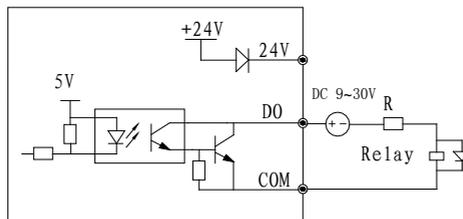

Fig. 2-22 On-off output connection mode 2 of multi-function output terminals
2) Multi-function output terminals Y as discrete output can also use the external, 9~30V, power supply and the wiring method is shown in Fig. 2-22